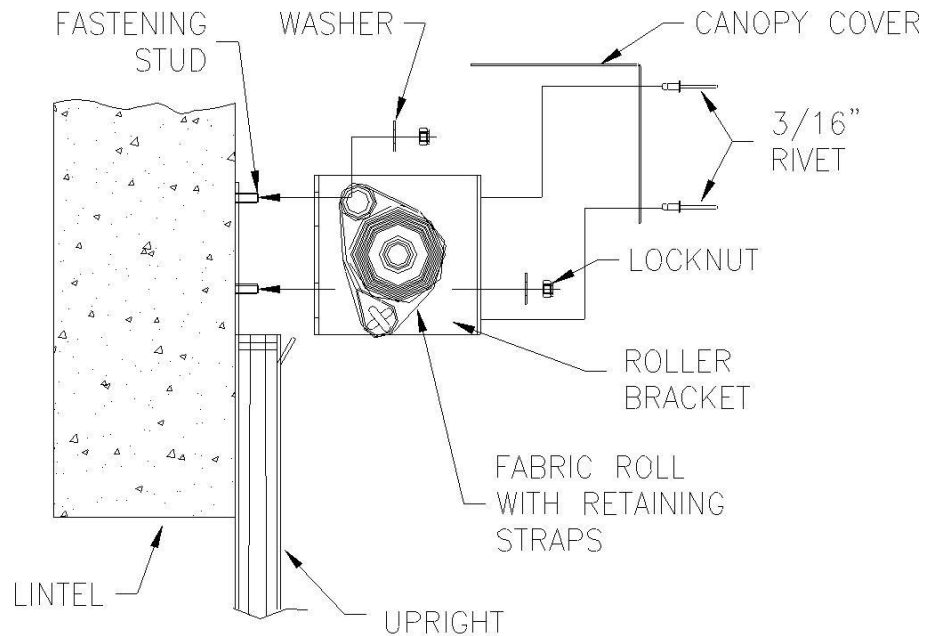

FIG. 3
- **Lift** Fabric Roll onto Fastening Studs (Figure 3).
- b. **Attach Canopy Cover** onto each Roller Bracket (Fig. 3).
For all tubes over 3.35" (85 mm) form a tongue in the motor end of the tube by making two cuts 1" (25 mm) apart and .75" (20 mm) deep. (See Fig. 3)